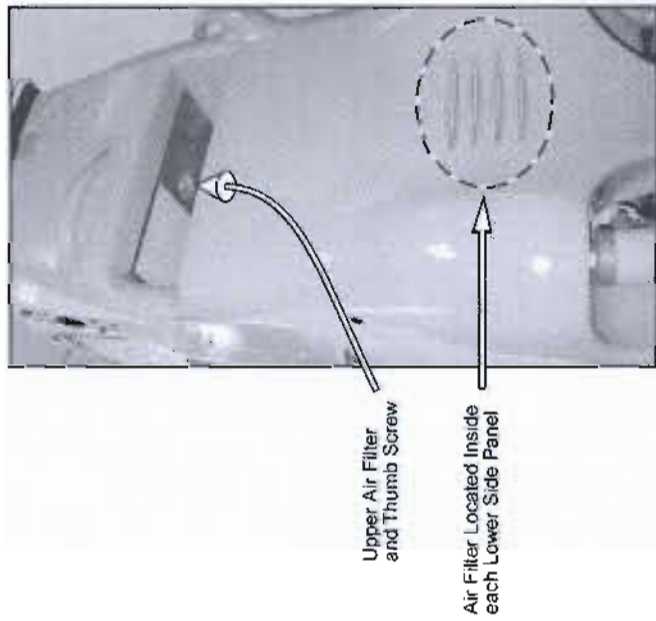

Figure 4-5 Locations of Console Air Filters
- 5.1 Loosen captive thumb screw securing upper air filter to top section of console (see Figure 4-5), then remove air filter from console.